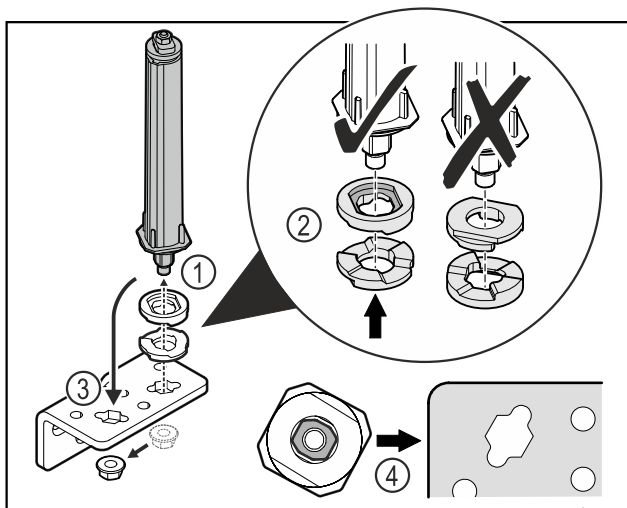

Fig. 29
- Loosen the nut and remove the door closing system Fig. 29 (1).
- Observe the correct alignment of the height adjustment washers Fig. 29 (2).
- Put the door closing system in the hinge and fix in place with the nut Fig. 29 (3).
- Observe the correct alignment of the door closing system when doing so Fig. 29 (4).